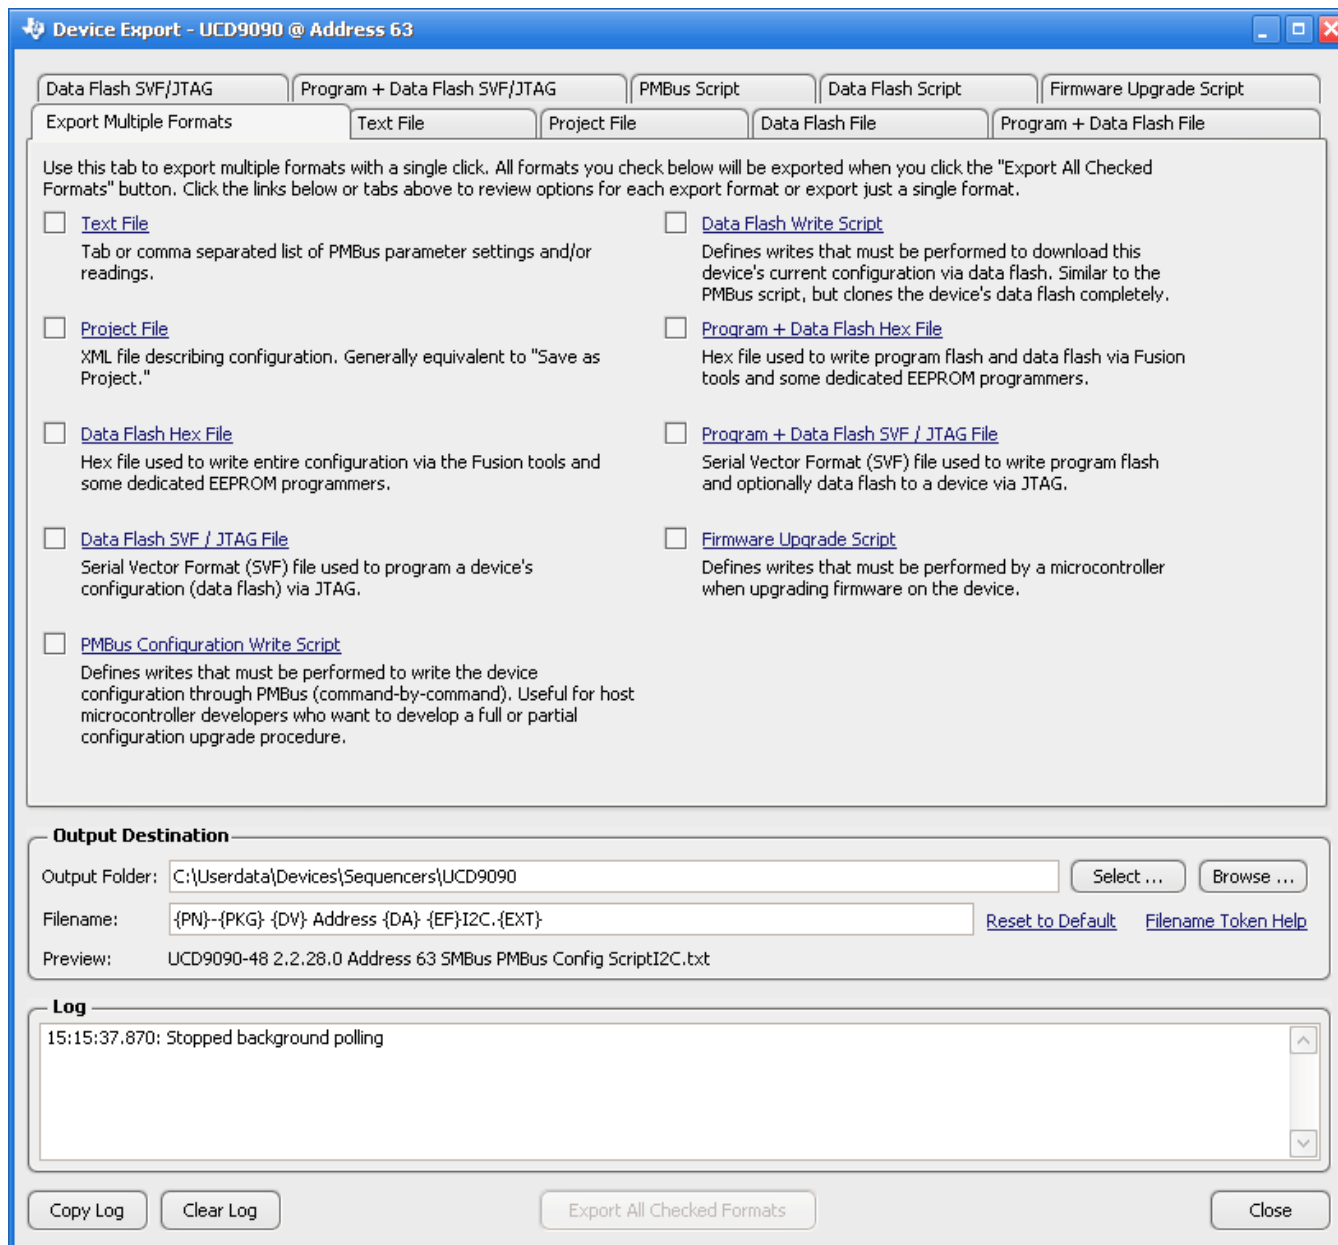

Figure 29. Fusion GUI Device Configuration Export Tool
- Another in-circuit programming option is for the *Fusion GUI* to create a data flash image from the configuration file (Figure 29). The configuration files can be exported in Intel Hex, Serial Vector Format (SVF) and S-record. The image file can be downloaded into the device using I²C or JTAG. The *Fusion GUI* tools can be used on-board if the *Fusion GUI* can gain ownership of the target board I²C bus.